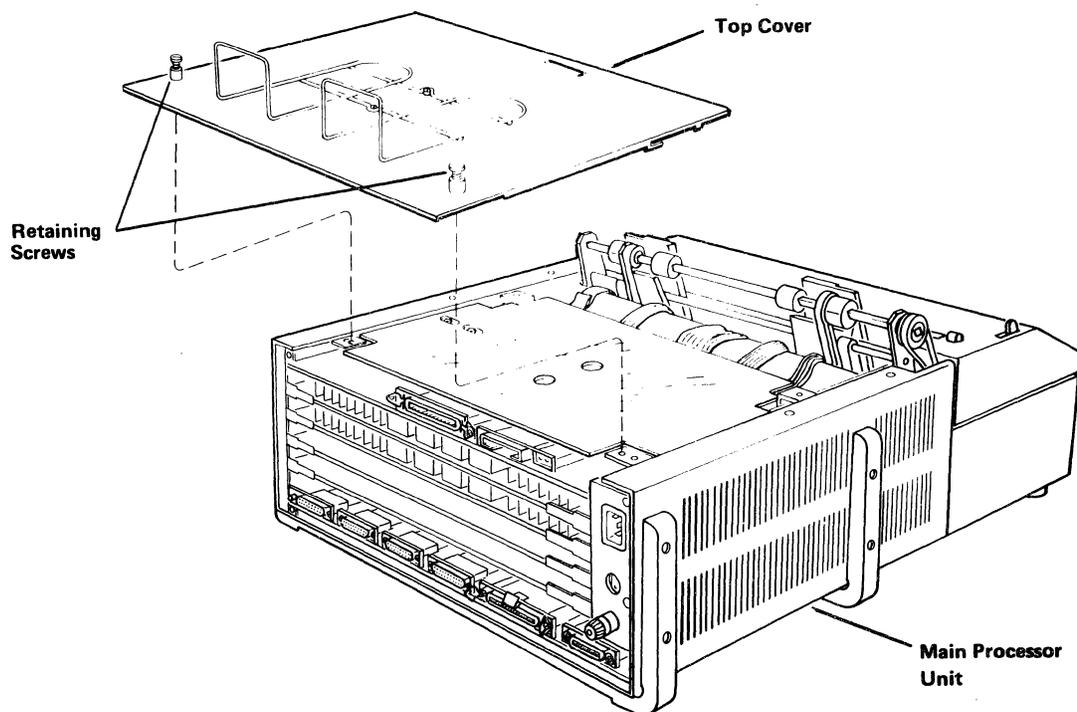

Figure 4-6. Processor Unit Top Cover
9. Remove the processor unit top cover by loosening the two (2) retaining screws, sliding the cover straight back toward the rear of the processor unit, and lifting. (See Figure 4-6). Put the cover in a safe place.
16. Replace the processor unit cover by placing the cover on the unit and sliding it forward toward the printer/plotter. Secure the cover in place by tightening the two (2) retaining screws on top of the cover (See Figure 4-6).
4. Position the cable harness assembly over its mounting holes and secure it with the two (2) cable harness retaining screws. (See Figure 4-6).